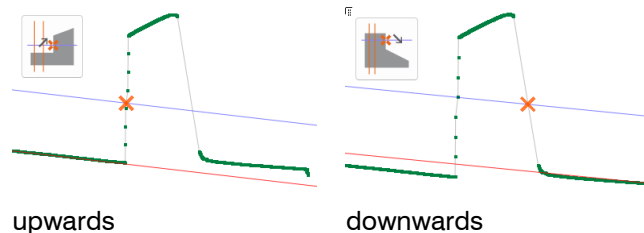
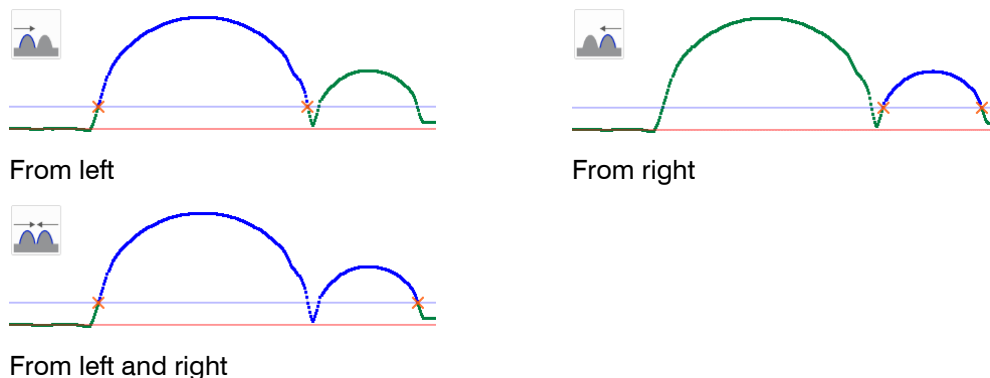

Fig. 6.25: Search direction
Fig. 6.27: Search direction
- Define the search direction (see Fig. 6.25 and Fig. 6.27) for determining the edge (see below, section "3").
- **Search direction:** Define the search direction for detecting the edge in the vertical direction (see Fig. 6.25):
- **Search direction:** Define the search direction for detecting the edge in the horizontal direction (see Fig. 6.27):
- Define the minimum width (euclidean) for the seam and the search direction (see Fig. 6.27) for determining the seam (see below, area "3").
- **Search direction:** Define the search direction for detecting the seam (see Fig. 6.27):
- Define the minimum width (euclidean) for the groove and the search direction (see Fig. 6.27) for determining the groove (see below, section "3").